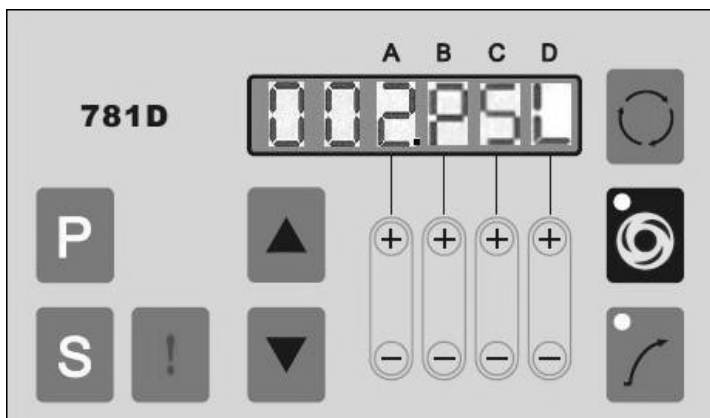

Figure4-4: Speed Curve Adjustment%
2) Referring to “How to Enter basic Parameter area”, enter basic Parameter area, use key  or  to select parameter number to “002.PSL”, as Fig.4-4